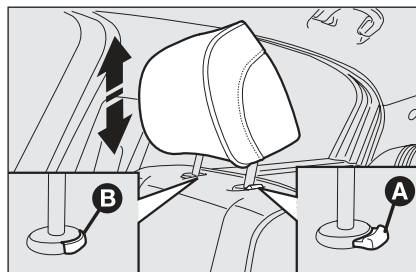

fig. 34
- ☐ press buttons **A** and **B**-fig. 34 (set aside the two head restraint supports) then remove the head restraints by pulling them upwards.